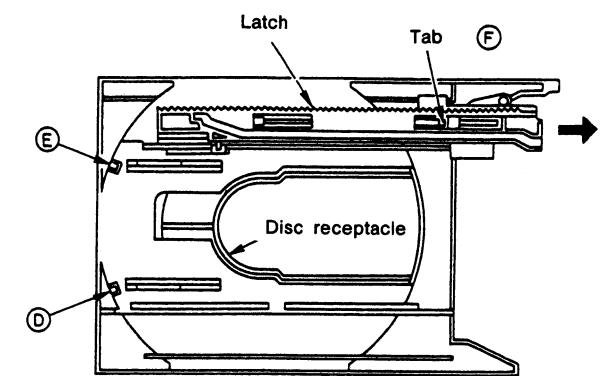

Fig. 4
(3) Replacement of the disc holder (Fig. 4)
With the tray removed, remove tabs (D) and (E) of the disc receptacle of Fig. 4, then lift up and off.
(4) Replacement of the latches (Fig. 4)
Set the latches into the condition of Fig. 4, lift the latch tab (F) up about 1 mm with a flat-bladed screwdriver and remove the rack in the direction of the arrow.